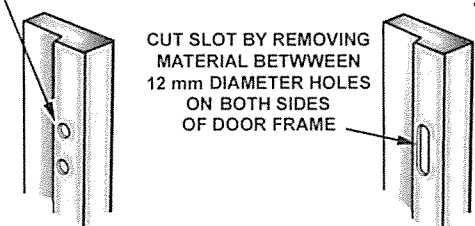
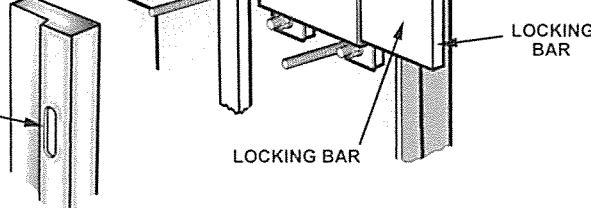

FIGURE 9
FIGURE 10
10. Drill a 12mm diameter hole in frame at top & bottom of each Locking Bar position. (Fig. 9) Use a small cutting wheel to splice between top & bottom holes, either side. (Fig. 10) This will create a slot in the frame to accept Locking Bars. If frame is concrete filled, drill out masonry to a depth so the Locking Bars will not 'bottom out' when fully extended.